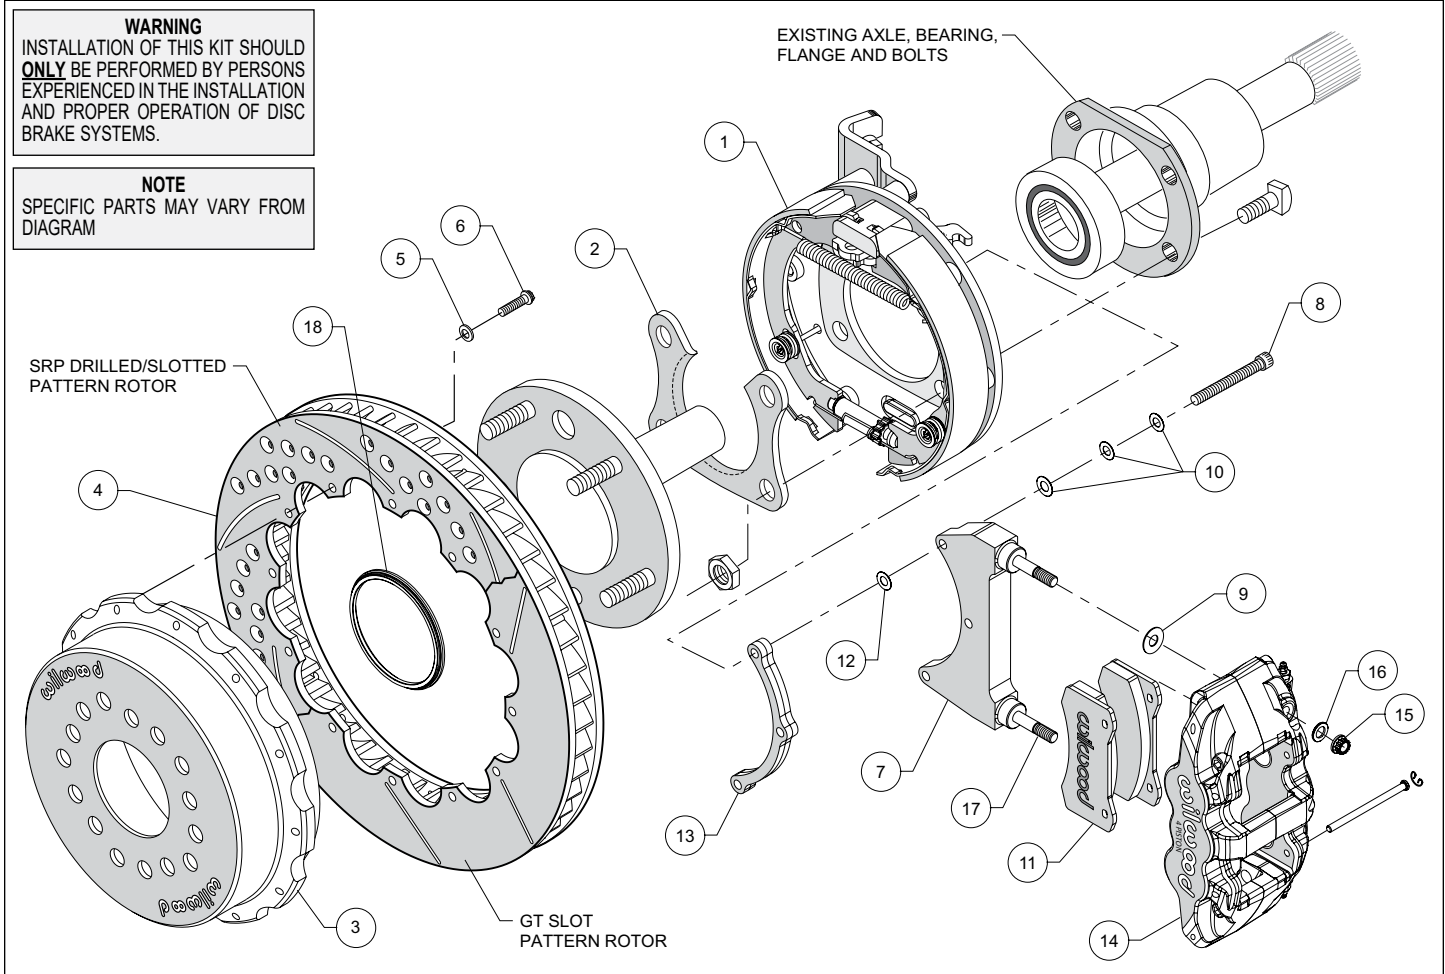

Figure 1. Typical Installation Configuration
- Orient the bracket assembly (1) as shown in Figure 1, and slide it onto the axle flange. Ensure that the bracket assembly backing plate fits flush against the housing flange. Insert the axle shaft into the axle housing.
- Install the bearing retainer (2) with the opening pointing upward and the lip facing inward (toward the bearing), as shown in Figures
1 and 4. Secure using the Original Equipment Manufacturer (OEM) bolts and nuts, Figure 1. Apply red *Loctite*® 271 to the OEM bolt threads and torque to OEM specifications.
- NOTE:** Please reference the caution statement at the beginning of the assembly instructions. The caliper mounting bracket assembly (7) should be installed first with clean, dry threads on the mounting bolts (8). Install the bracket from the rear side of the bracket kit assembly (1) by sliding bolt (8) through three flat washers (10), bracket (7), shim washer (12) and finally through the spacer (13), see Figure 1. **NOTE:** End of bolt should not exceed inside face of insert. The bracket must tighten squarely against the back side of the bracket kit assembly (1). Inspect for interference from casting irregularities, machining ridges, burrs, etc. Use one thin shim (12) between the bracket (7) and spacer (13) during initial trial fitting.
- Lubricate caliper mounting studs and nuts with lightweight oil. Install one shim (9) over each pre-installed stud (17) on the radial mount bracket (7). Slide the caliper (14) in place over the studs and rotor, then install the washer (16) and lock nut (15) to hold the caliper in place. The caliper bleed screws should be pointing up. Snug the lock nuts (15) and check that the rotor (4) is centered in the caliper (14). Add or subtract .015" shims (12) as necessary between the caliper mounting bracket (7) and the spacer (13) to center the caliper (9).
- Remove the two pad retaining pins from the caliper (14) by carefully popping out the pin retaining clips and sliding out the pins. Insert the brake pads (11) into the caliper from the bottom, Figure 1. With the friction material facing the rotor, secure the brake pads in place with the pad retaining pins and clips. Reinstall the caliper onto the caliper mounting bracket and temporarily tighten the lock nuts. Check that the top of the brake pad is flush with the outside diameter of the rotor. If not, adjust by adding or subtracting shims (9) between the caliper and the bracket.
- Adjust the parking brake shoes outward (using a drum shoe adjustment tool available at your local auto parts store) while spinning the hat (3) until a slight drag is felt against the hat/drum. Remove the lug nuts that were holding the hat/rotor in place. Install the wheel and lug nuts. Check to see that the wheel rotates freely without interference.
- Once all clearances have been checked, remove the wheel, caliper, hat/rotor from the bracket kit assembly (1). Secure the